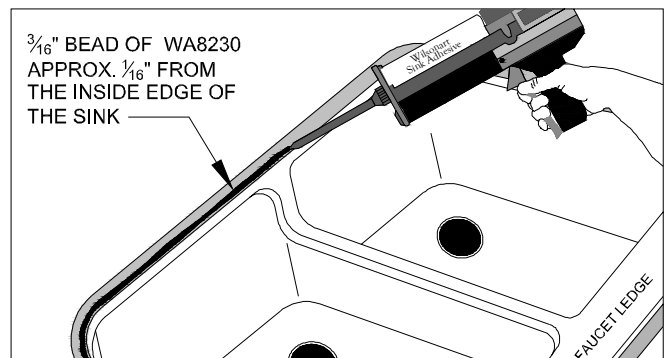

Figure 16C
- Apply the Sink Adhesive to the sink flange. (FIG. 16C)